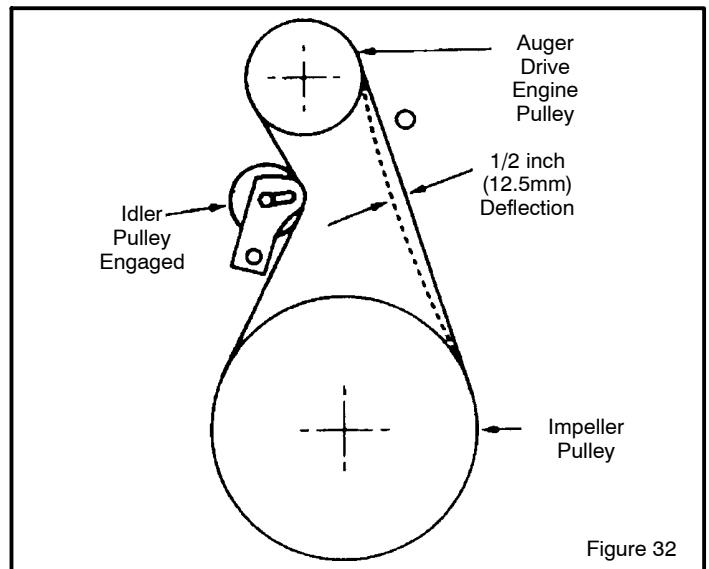

Figure 32
5. Have someone engage auger drive clutch. Check tension on belt (opposite idler pulley). Belt should deflect about 1/2 inch (12.5 mm) with moderate pressure (Figure 32). You may have to move idler pulley more than once to obtain the correct tension.